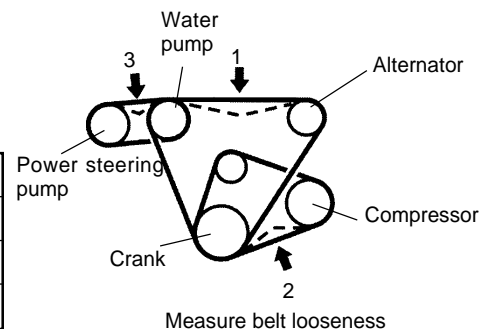

Figure 1-1
- Check the belt distortion at the specified point (see Figure 1-1).